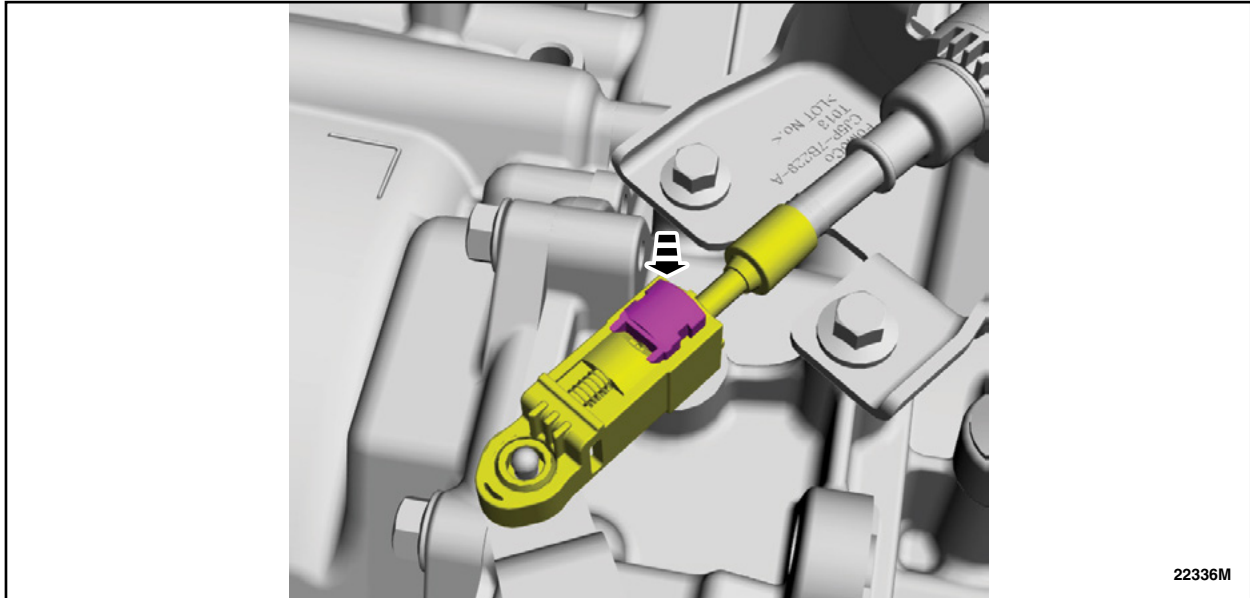

FIGURE 15
16. Slide the adjuster tab in place to lock the selector lever cable. See Figure 15.